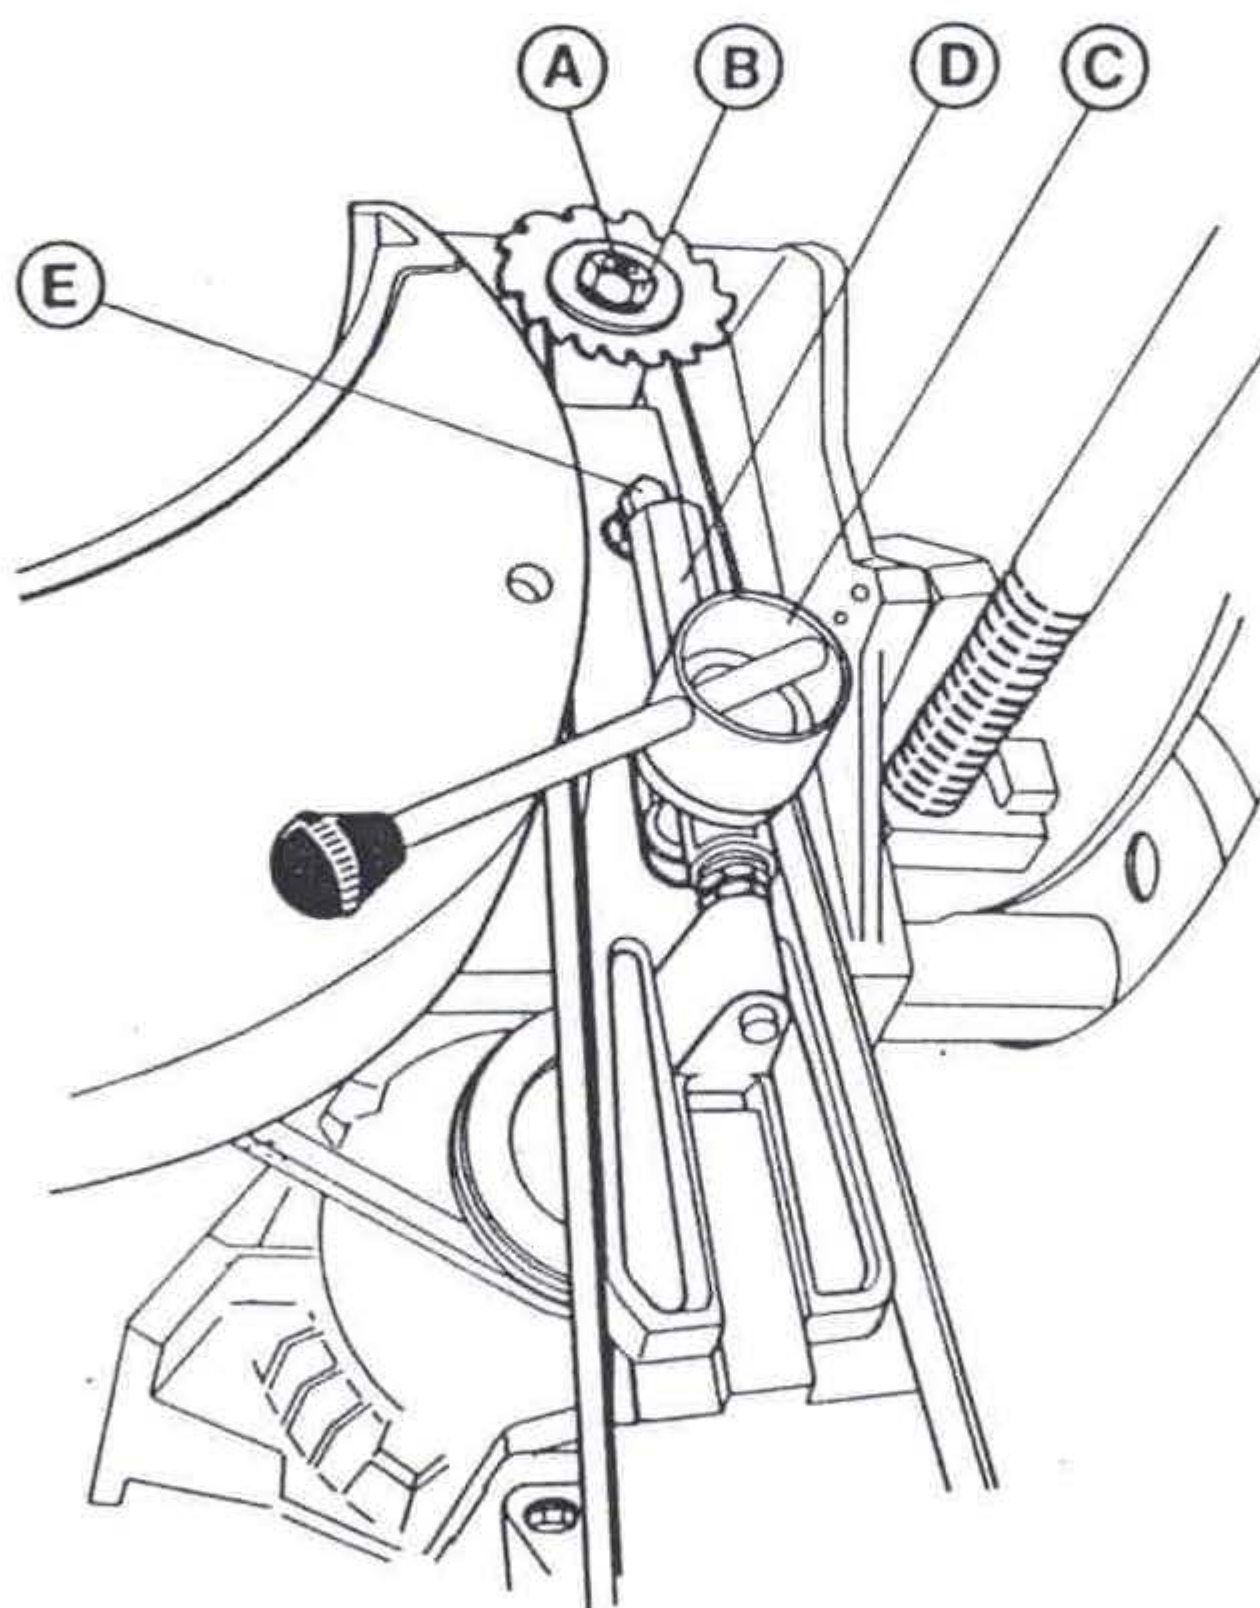

Fig. 29
## II MOUNTING OF SCORING BLADES (fig. 29)
## III ADJUSTMENT OF THE SCORING UNIT (fig. 29)
- Finally if there is only one edge of the workpiece that must not be chipped, the scoring blade can be of any shape or dimension as there is to take care only of the alignment of one edge operating the screw (E) (fig. 29).